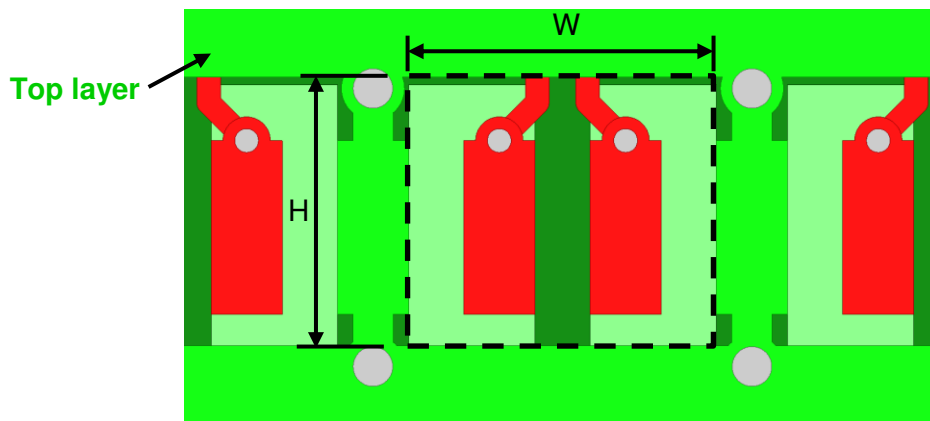

Figure 8: Receptacle anti-pad dimensions
6. Trace bending angle, $\alpha \geq 45$ degrees. Refer to Figure 8.